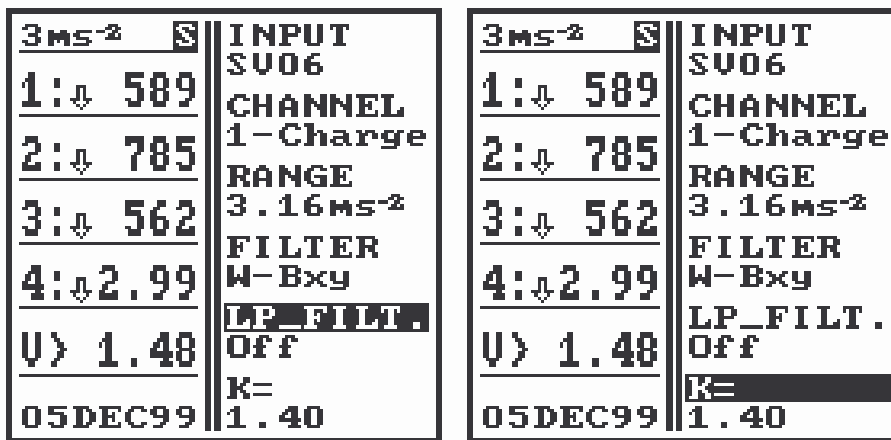

Fig. E.6. Four-channel measurement in METER MODE: INPUT window; LP_FILTER and K= fields
4. to switch on (**On**) or off (**Off**) the additional low pass filter **LP_FILTER**. (cf. Fig. E.6).
5. set the required values of the **K factors** (for each channel) (see Fig. E.6).